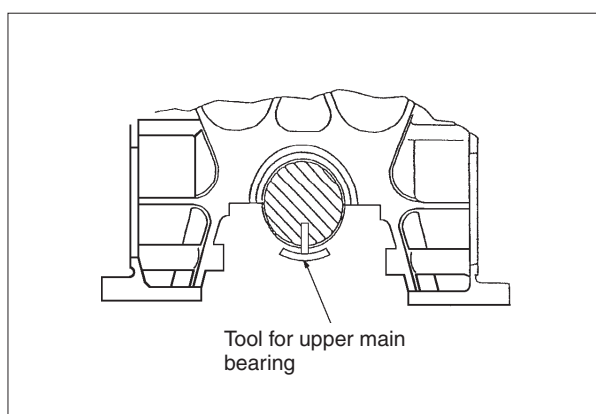

Fig 3. Mounting of tool for upper main bearing.
- 11) Fit the tool for upper main bearing, for dismantling of upper main bearing shell, in the lubricating hole in the crankshaft and turn out the upper bearing shell by turning the crankshaft, see fig 3.